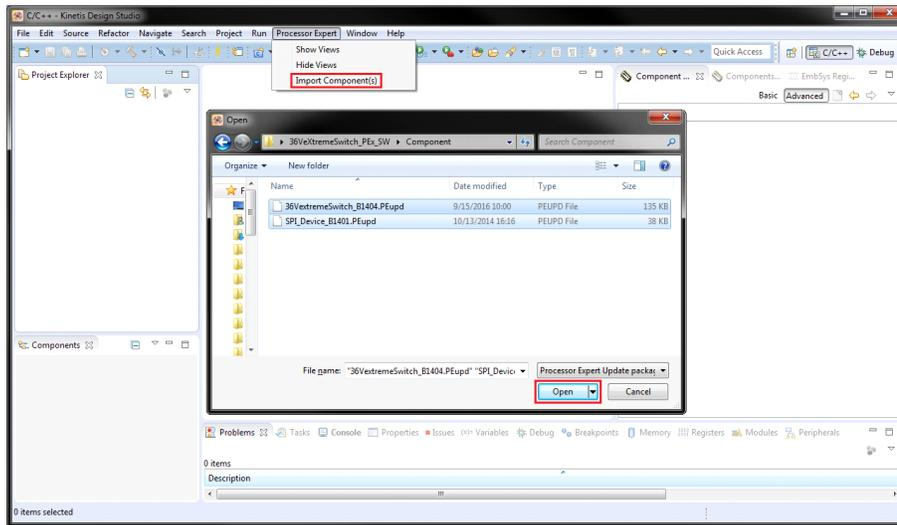

Figure 7. Importing the 36VeXtremeSwitch component
2. In the pop-up window locate the component file (.PEupd) in the folder **36VeXtremeSwitch\_PEx\_SWComponent**. Select **36VeXtremeSwitch\_bxxxx.PEupd** and **SPI\_Device\_bxxxx.PEupd** files, then click **Open** (see Figure 7).